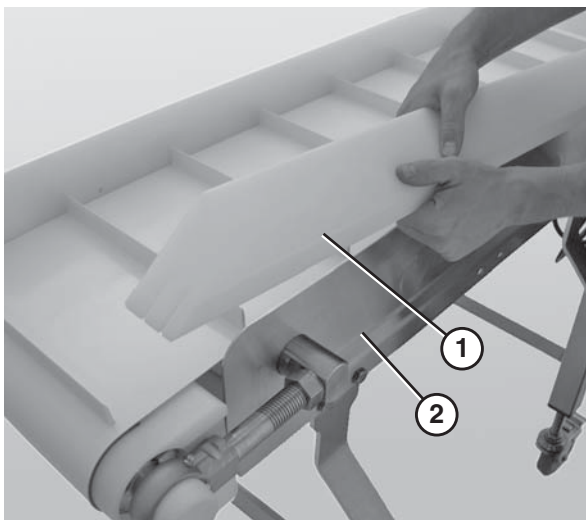

Figure 34
1. Position the guide (Figure 34, item 1) so that the flat surface is facing the belt and then slide the guide onto the frame rail (Figure 34, item 2).